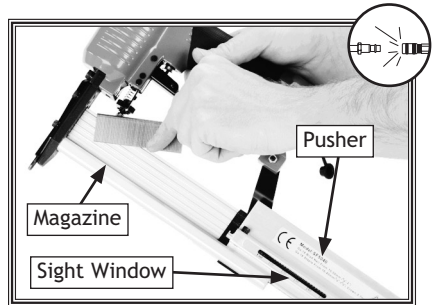

Figure 4. Loading nails into magazine.
3. Insert a strip of brads or staples, pointed-end down, into the magazine as shown in Figure 4.
6. Reload the nailer/stapler when the magazine sight window (Figure 4) shows the nail or staple level is low. The sight window shows up to approximately 50 nails or staples loaded.